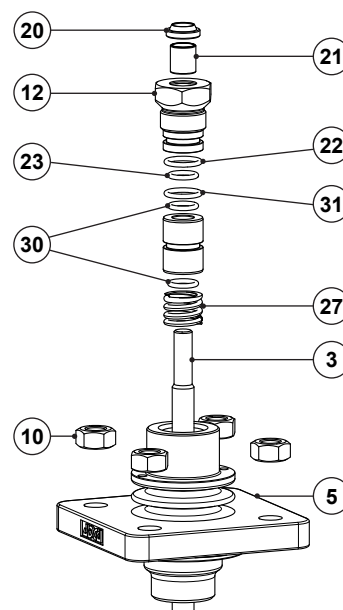

Fig. 10 - EPDM (EP1)
8. Insert the spring (27) on the packing box and carefully slide in the O-ring guide (29) according to Fig. 10.
9. Renew the scraper ring (20), plain bearing (21) and O-rings (22, 23) if necessary. Fit the O-rings (22, 23) and the gland nut (21), screwing it loosely.